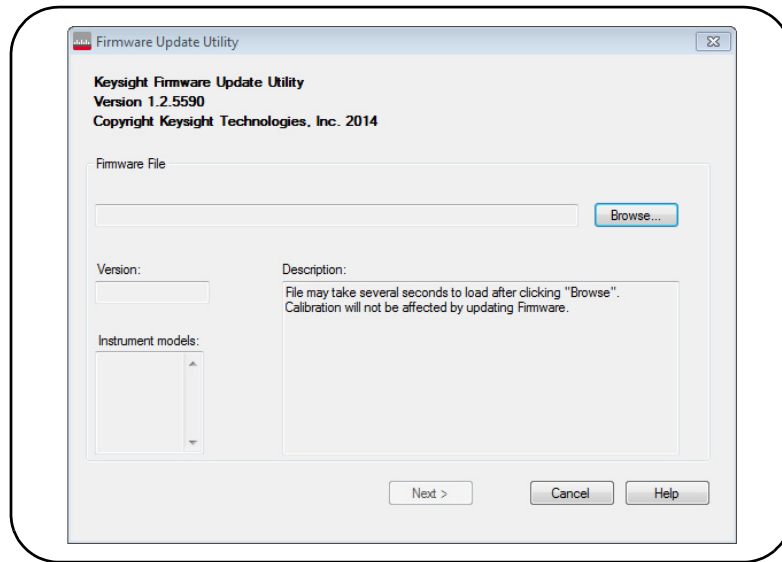

Figure 2-9 Selecting the Update File Path.
- 2 Press **Next** and using the **Browse** button, specify the path to the firmware file (Figure 2-9). Once specified, the instrument model number will appear in the 'Applicable Models' window along with the revision and instrument description. Select **Next**.